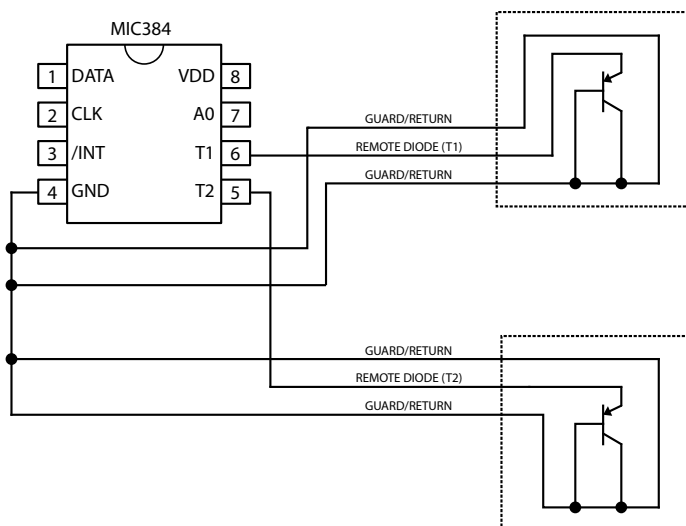

Figure 6. Guard Traces/Kelvin Ground Returns
2. Since any conductance from the various voltages on the PC Board to the T1 or T2 line can induce serious errors, it is good practice to guard the remote diodes' emitter traces with pairs of ground traces. These ground traces should be returned to the MIC384's own ground pin. They should not be grounded at any other part of their run. However, it is highly desirable to use these guard traces to carry the diodes' own ground return back to the ground pin of the MIC384, thereby providing a Kelvin connection for the base of the diodes. See Figure 6.
3. When using the MIC384 to sense the temperature of a processor or other device which has an integral thermal diode, e.g., Intel's Pentium III, connect the emitter and base of the remote sensor to the MIC384 using the guard traces and Kelvin return shown in Figure 6. The collector of the remote diode is typically inaccessible to the user on these devices. To allow for this, the MIC384 has superb rejection of noise appearing from collector to GND, as long as the base to ground connection is relatively quiet.